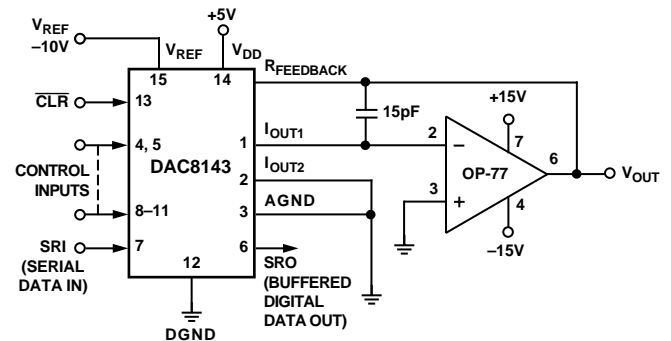

Figure 16. Unipolar Operation with High Accuracy Op Amp (2-Quadrant)
1. Phase compensation (see Figures 16 and 17).
The circuit shown in Figures 16 and 17 may be used with an ac or dc reference voltage. The circuit's output will range between 0 V and  $+10(4095/4096)$  V depending upon the digital input code. The relationship between the digital input and the analog output is shown in Table II. The  $V_{\text{REF}}$  voltage range is the maximum input voltage range of the op amp or  $\pm 25$  V, whichever is lowest.
1Nominal full scale for the circuits of Figures 16 and 17 is given by
2Nominal LSB magnitude for the circuits of Figures 16 and 17 is given by